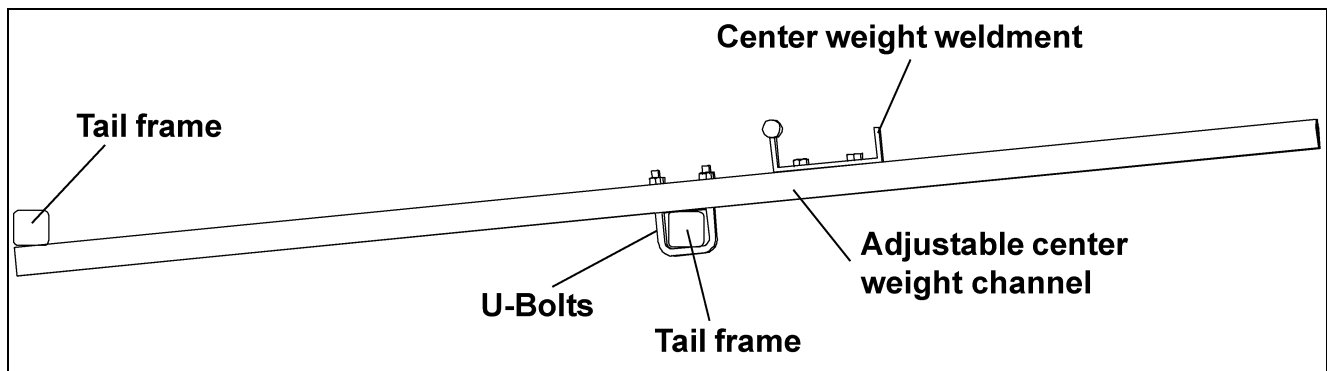

Figure 5T
- C. Place assembly on top of the back tail section, around the tires. The end of the adjustable center weight should be placed under the tail frame. (See Figure 5T.)